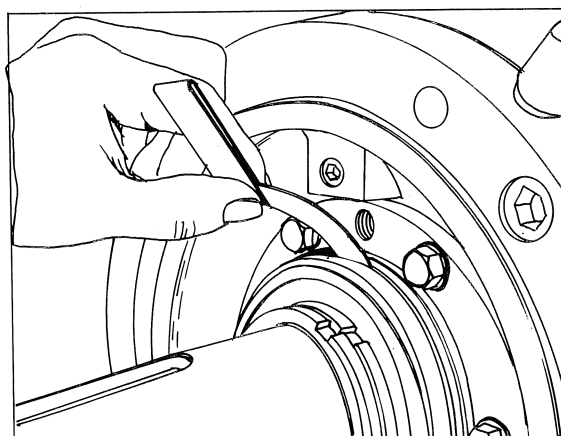

Fig. 61 Measuring thrust gap
c) After pulling out the crankshaft by rotating it by hand, measure the clearance between the seal collar and the flowing collar with a thickness gauge at the top and bottom and also right and left positions (ref. Fig. 61).